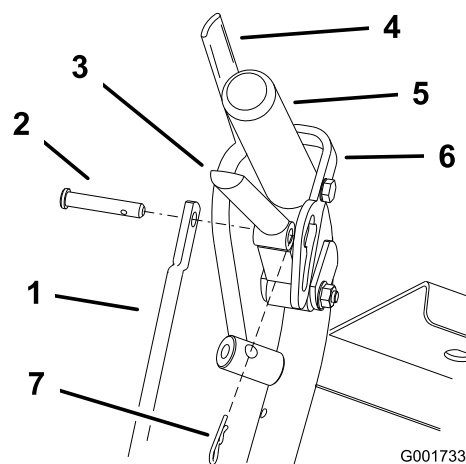

Figure 41
1. Adjust the rod length by releasing the drive lever and removing the hairpin cotter pin and clevis pin. Rotate the rod in the rod fitting (Figure 41).
4. Place the clevis pin into the drive lever (Figure 41).
6. Install the hairpin cotter pin between the drive levers and the neutral locks and into the clevis pins (Figure 41).